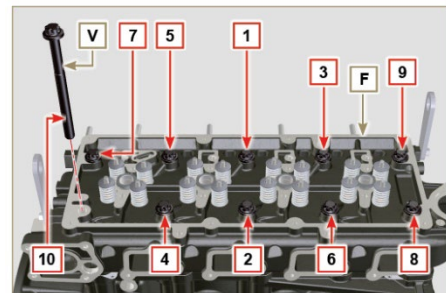

Fig 9.50
9. Secure the head **F** by tightening the screws **V** strictly following the sequence indicated in the **Fig. 9.50** and the tightening torque indicated in the **Tab. 9.3**.